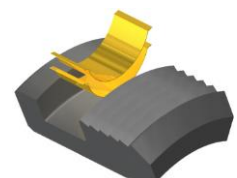

Fig. 3
- L-1.1.1) Install spring retaining ring (28) into upper slip body (6).
- L-1.1.2) Screw spring cage (5) into upper slip body (6).
- L-1.1.3) Install upper slips (8), releasing slip (7), and upper slip springs (26) into upper slip body (6).
- NOTE9:** Install two (2ea) springs per slip (Fig. 3).